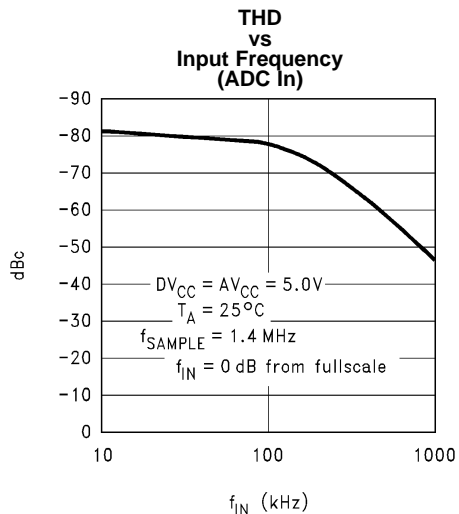
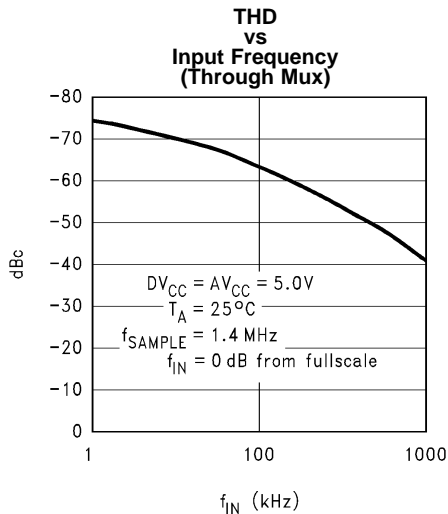

Figure 15.
Figure 18.
- (1) Dynamic testing of the ADC12762 is done using the ADC IN input. The input multiplexer adds harmonic distortion at high frequencies. See Typical Performance Characteristics for Figure 15 and Figure 18.
- (2) Typical values are at +25°C and represent most likely parametric norm.
- (3) Tested limits are guaranteed to TI's AOQL (Average Outgoing Quality Level).
- (4) The signal-to-noise ratio is the ratio of the signal amplitude to the background noise level. Harmonics of the input signal are not included in its calculation.
- (5) The contributions from the first nine harmonics are used in the calculation of the THD.
- (6) Effective Number of Bits (ENOB) is calculated from the measured signal-to-noise plus distortion ratio (SINAD) using the equation $ENOB = (SINAD - 1.76)/6.02$.